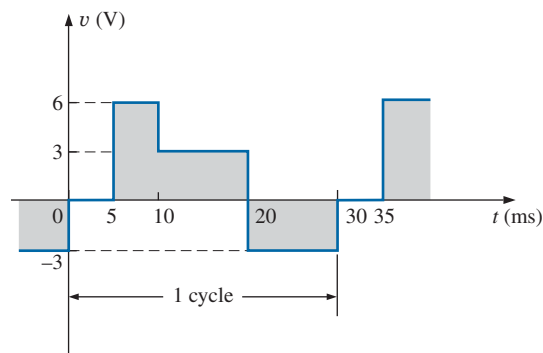

FIG. 13.98
41. Find the average value of the periodic waveform in Fig. 13.98.